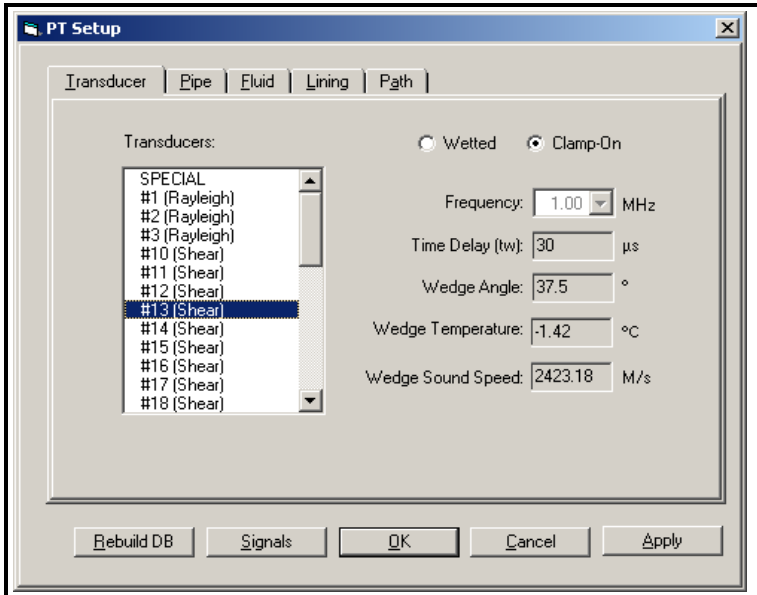

Figure 12: The PT Setup Window
4. To enter basic setup parameters, click on the "Program" option. The PT Setup window opens, as shown in Figure 12 on the next page.